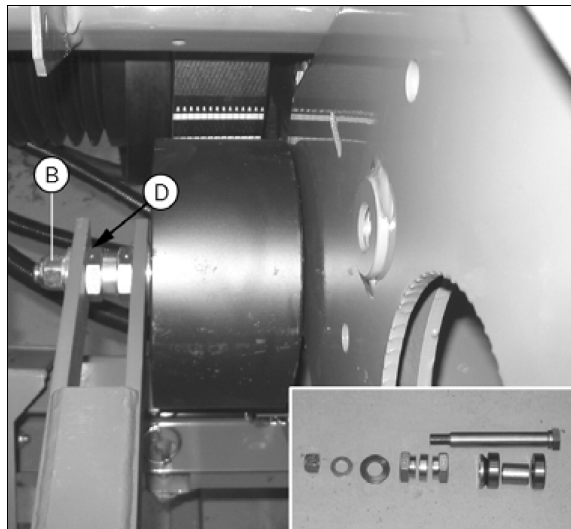

Fig. 10.
2. Dismount the tension pulley arm by knocking out the spring pin (A) and pulling the arm and tension pulley from the shaft.
3. Dismount the tension pulley at the centre bolt (B) (fig. 10). When replacing bearings, dismount the locking rings and press the bearings out. The assembly order for the various elements is shown in (fig. 10). Make sure the marks on the two eccentrics (D) match up.